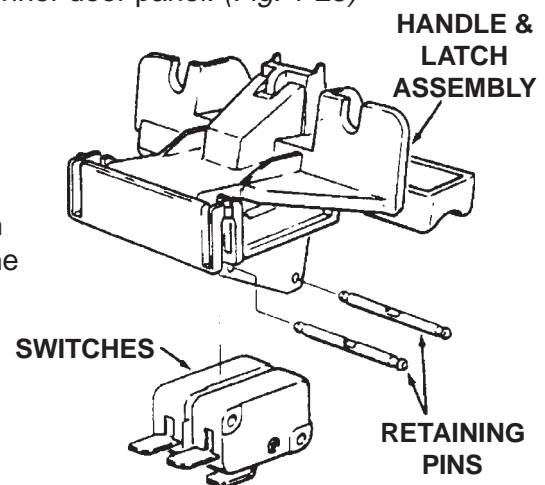

Fig. 1-25
1. Disconnect the dishwasher from the electrical supply and remove the toe panel and access panel from the bottom of the dishwasher and the inner door panel. (Fig. 1-25)
4. To remove the switches from the handle and latch assembly, push the two (2) retaining pins out of the holes and remove the switches.